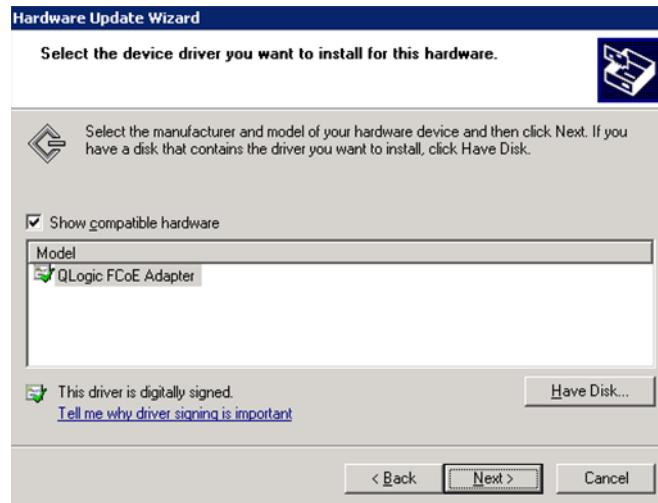

Figure 3-17. Confirming the FCoE Adapter
12. Confirm that the QLogic FCoE adapter is shown in the list of network adapters (Figure 3-17), and then click **Next**.